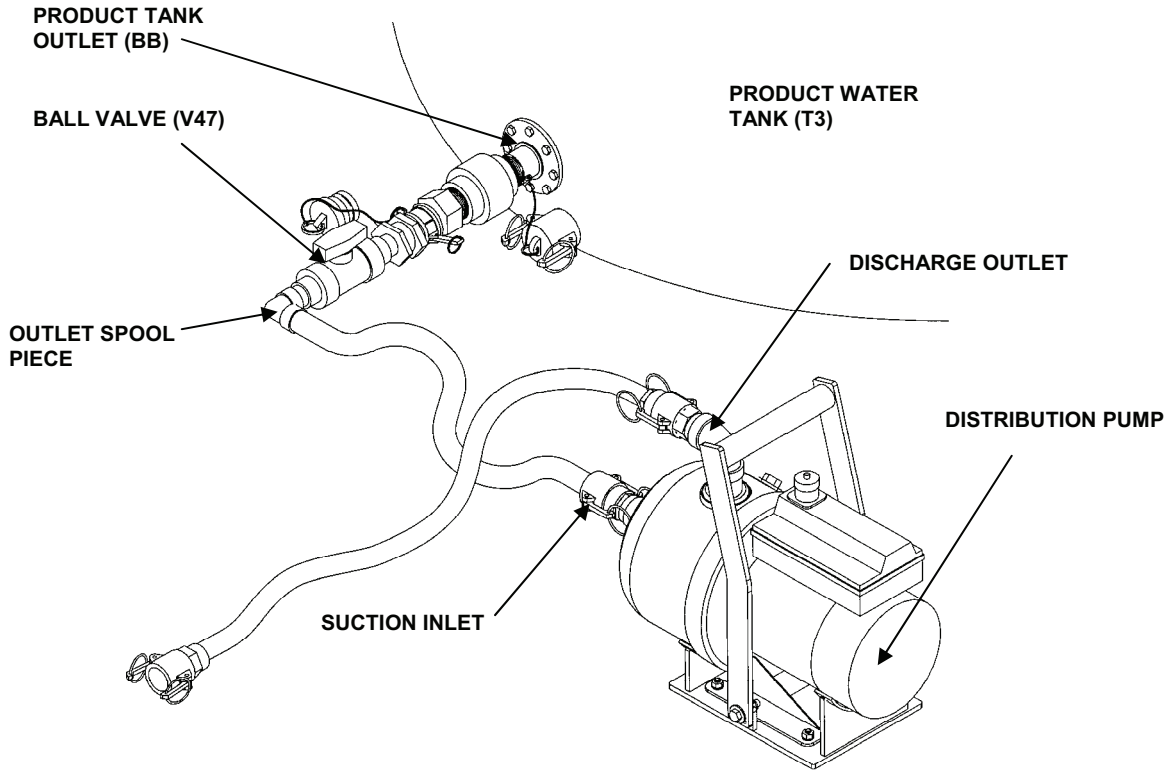

Figure 17. Product Tank Outlet to Distribution Pump Connection.
38. Connect the product tank outlet spool piece to the suction port of the distribution pump. See Figure 17.
39. Connect one end of the fabric product water hose (blue) to the discharge of the distribution pump. See Figure 1 and Figure 17.